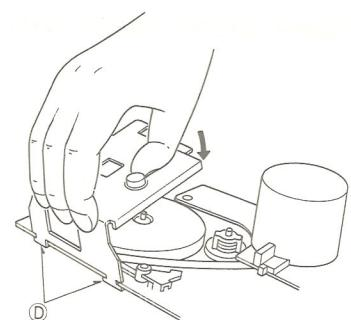

Fig. 20
4. Shift down the flywheel retainer, supported at points (D), in the direction of the arrow as illustrated. (fig. 20)